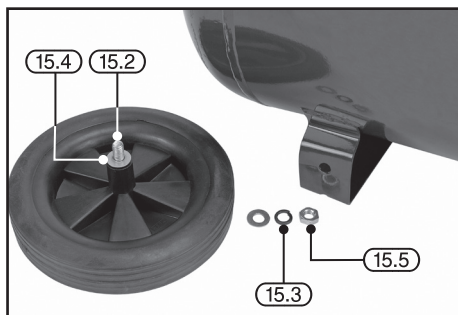

FIG.1
8.1 LOCATION AND ASSEMBLY – FIGS.1 – 2
Fitting the wheels (fig.1):